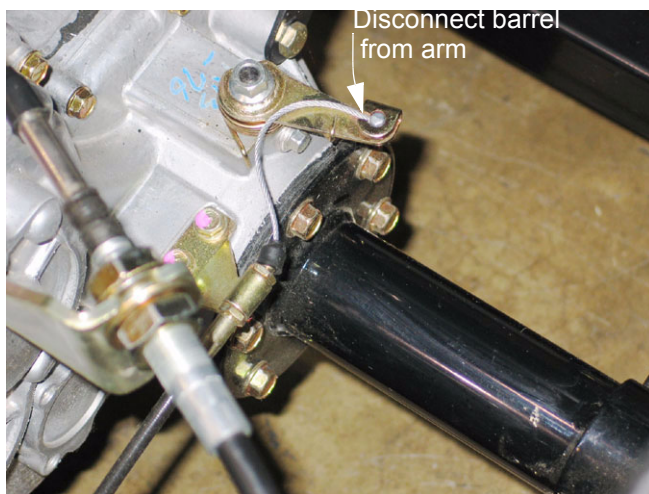

Figure 4.36
- 4.36. There is sufficient slack in the cable to disconnect the barrel on the rear end of the cable from the differential lock lever on the transaxle as well: either end may be disconnected first. See Figure 4.36.